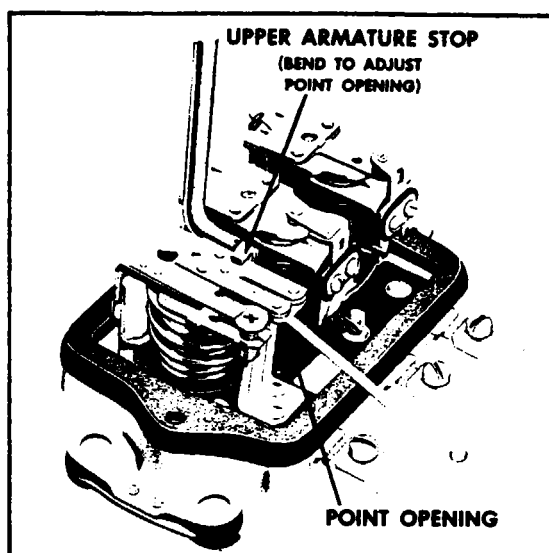

Figure 11-11. Cutout Relay Point Opening Check and Adjustment
b. **Point Opening:** Check point opening and adjust by bending the upper armature stop. (Refer to Figure 11-11.)